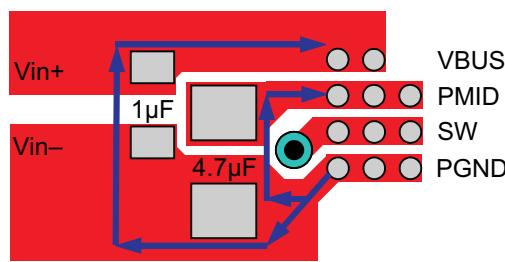

Figure 41. Input Capacitor Position and PCB Layout Example
- Place $4.7\mu\text{F}$ input capacitor as close to PMID pin and PGND pin as possible to make high frequency current loop area as small as possible. Place $1\mu\text{F}$ input capacitor as close to VBUS pin and PGND pin as possible to make high frequency current loop area as small as possible (see Figure 41).